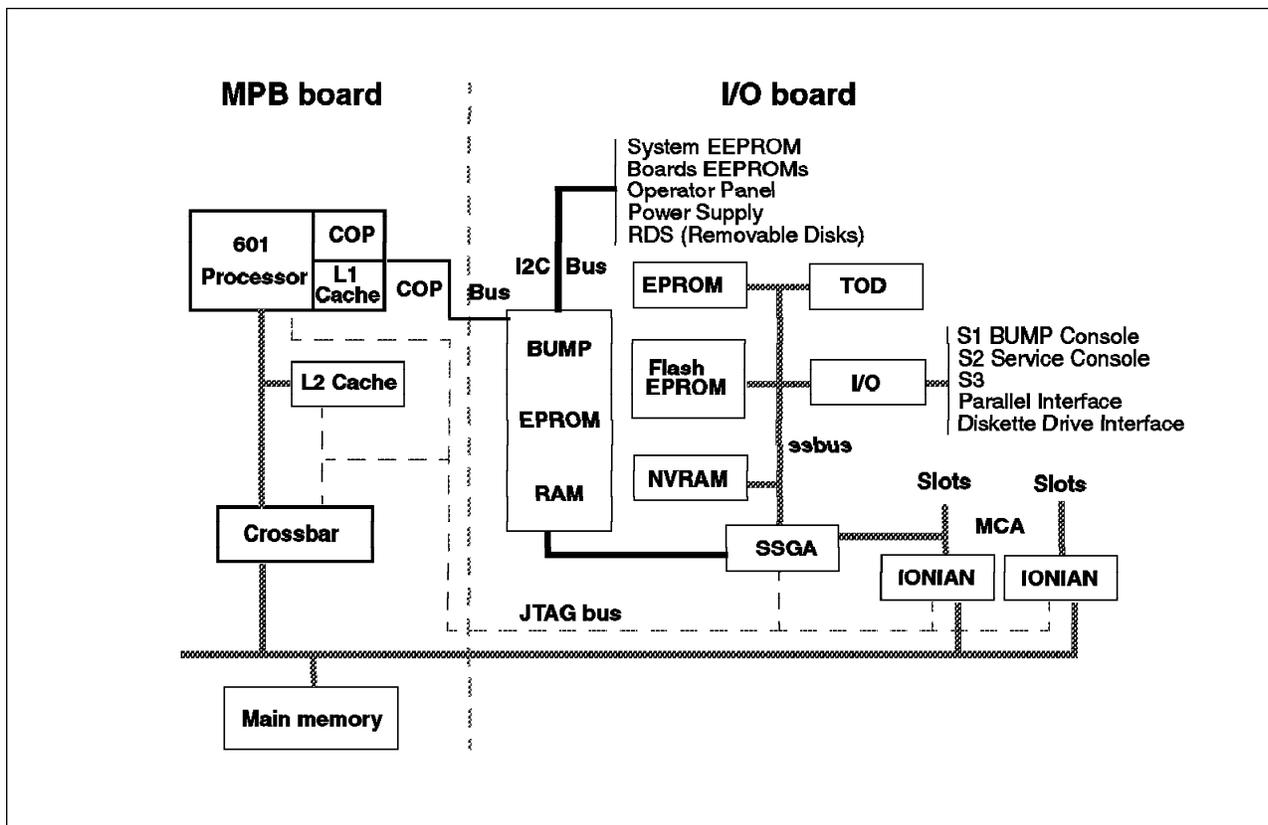

Figure 60. SystemGuard Hardware Components
Figure 60 on page 101 shows the SystemGuard hardware components. The MPB board stands for Multiprocessor Board. The COP is the Common On-chip Processor which is used for testing the PowerPC chip (601). The IONANs are components that handle the MCA buses.